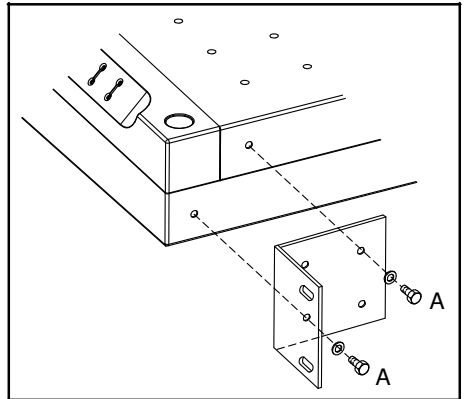

Figure 5.1 Brackets for 19" rack
Refer to figure 5.1.
- 1) Remove the two screws indicated as 'A' in figure 5.1.